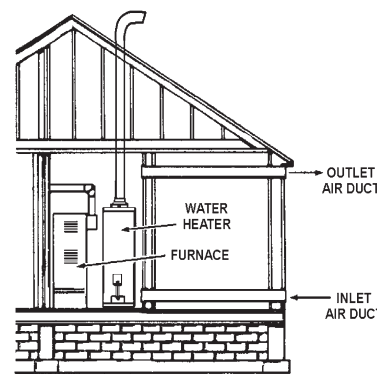

FIGURE 9.
3. When communicating with the outdoors through horizontal ducts, each opening should have a minimum free area of 1 square inch per 2,000 Btu per hour (11 cm²/kW) of total input rating of all equipment in the enclosure, see Figure 9.
4. When ducts are used, they should be of the same cross-sectional area as the free area of the openings to which they connect. The minimum short side dimension of rectangular air ducts should not be less than 3 inches (7.6 cm), see Figure 9.